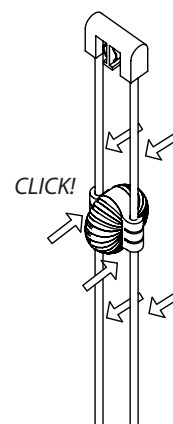

Fig. 7
3. Place the index and middle fingers of each hand on the hanger rods on either side of the Ladder Light and press firmly on both sides of the Ladder Light with the thumbs until the Ladder Light fully clicks into place. (Fig. 7)